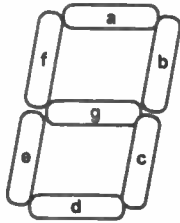

Fig. 7.28 Segment numbers for a seven-segment display.
Seven-segment displays provide a means of displaying numbers (0 to 9) and some letters (e.g., A, b, C, d, E, F, H, etc.). Several different types of display are in common use but one of the most common is based on light emitting diodes (l.e.d.s). The arrangement of the segments in a typical seven-segment l.e.d. display is shown in Fig. 7.28.
2. Using Fig. 7.28, determine the segments that should be illuminated in order to produce the digits 0 to 9 and letters A to F (see Fig. 7.32).